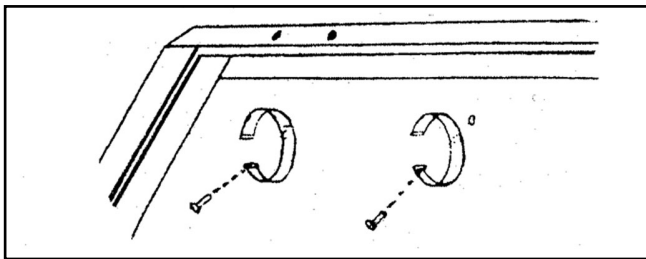

Figure 1. Lamp holder.
1. Install the two lamp holders with the two screws (Figure 1).